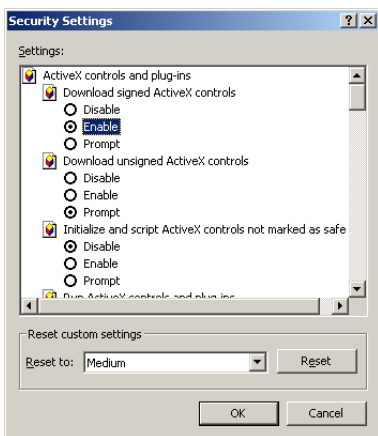

Figure 4-4 ActiveX Security Settings
8. In the Settings list, locate the ActiveX controls and plug-ins and select the following options (See Figure 4-4):